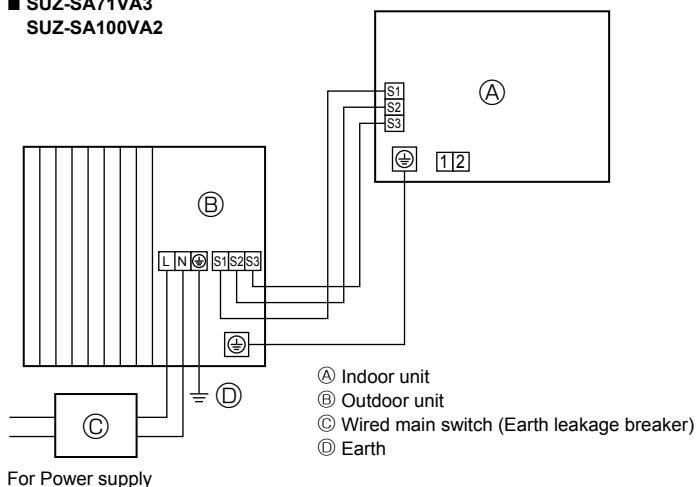
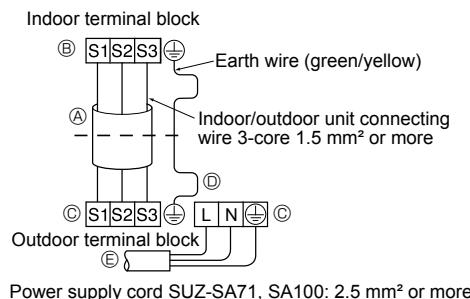
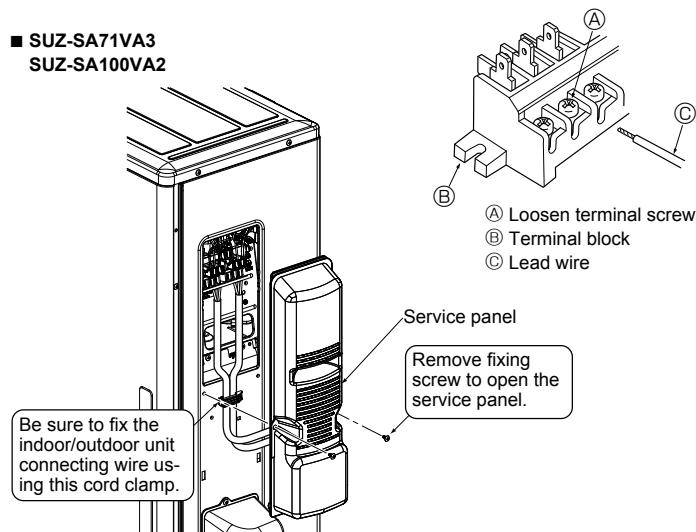

Fig. 5-1
Fig. 5-2
Fig. 5-3
5.1. Outdoor unit (Fig. 5-1, Fig. 5-2, Fig. 5-3, Fig. 5-4)
- ① Remove the service panel.
- ② Wire the cables referring to the Fig. 5-1, Fig. 5-2, Fig. 5-3 and the Fig. 5-4.
- Perform wiring as shown in the diagram to the lower left. (Procure the cable locally) (Fig. 5-2)
- **Use care not to make miswiring. (Fig. 5-3)**